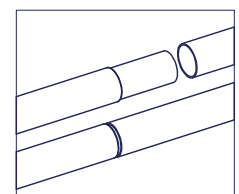

figure 7
4. The extensions of the snow guard pipes (handrail) shall be done by sliding the pipe end with solid reducer inside the adjacent non-reduced pipe (figure 7). If necessary, secure connection with a self-drilling screws.